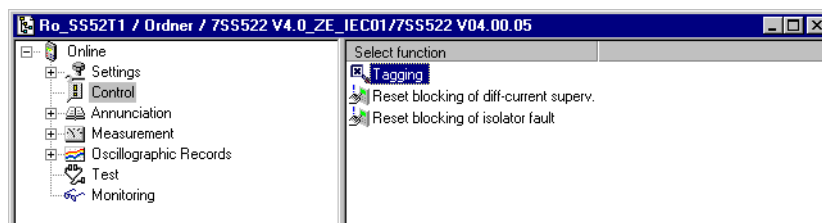

Figure 6-24 Reset blocking of differential current supervision using DIGSI
- ❑ Click **Control** in the navigation window.(see Figure 6-24, page 237).